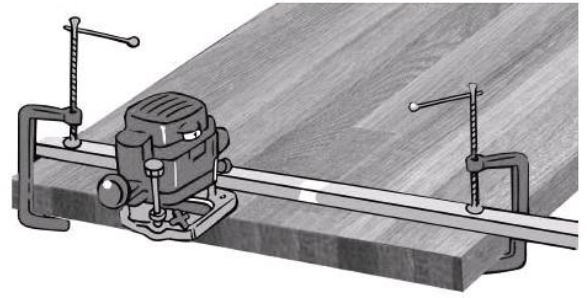

Fig. 2 Cut to size
- Working from left to right firmly press the base plate of the router against the straight edge and proceed to machine the material (Fig. 2).